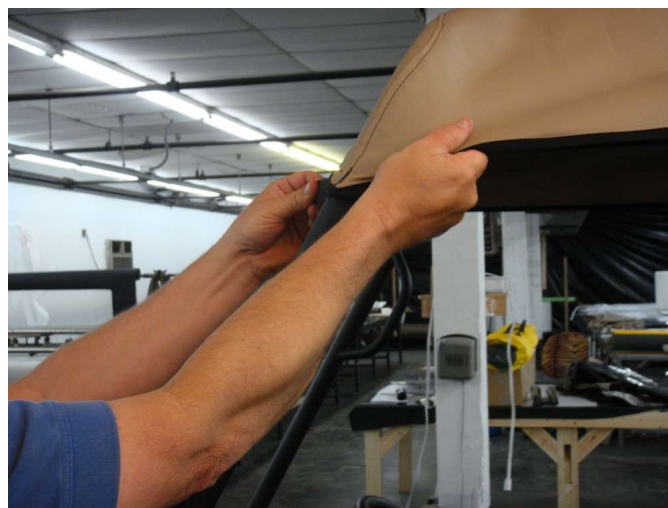
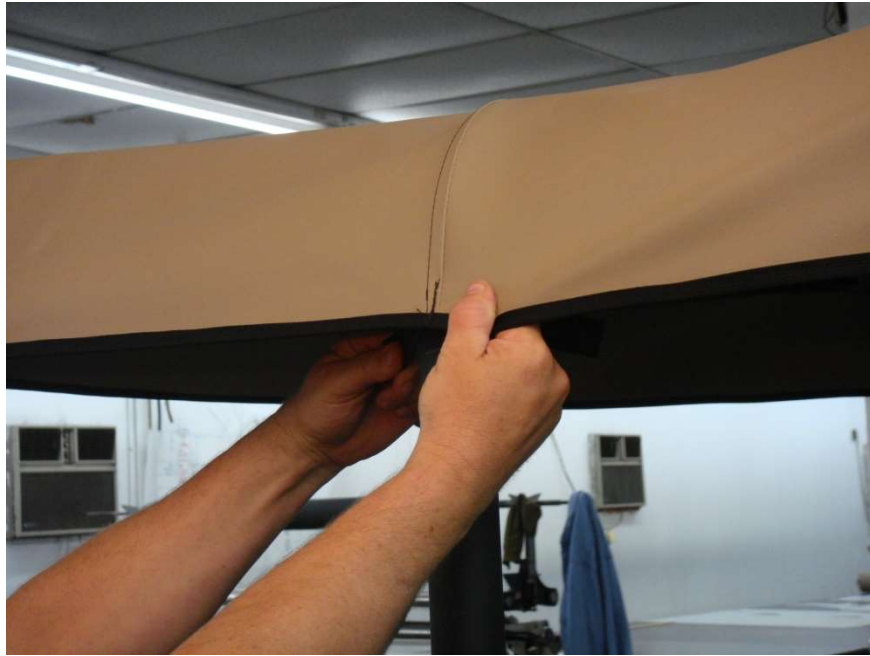

Figure 4.1 - Attach front, center and rear Enclosure Velcro tabs to installed Velcro strips
Figure 4.2 - Attach front, center and rear Enclosure Velcro tabs to installed Velcro strips
Step 5: Pull the Enclosure down tightly on the two front roll bars and two middle roll bars keeping Enclosure seams aligned with the center of each Roll Bar and attach each Enclosure Velcro Tab to its respective installed Velcro Strip as shown in figure 4.1 and figure 4.2. Re-align the Velcro tabs on the two back roll bars to allow a wrinkle free drape of the back half side panels.